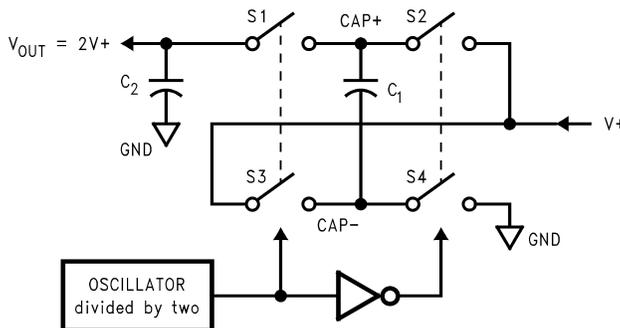

Figure 11. Voltage Doubling Principle
The LM2767 contains four large CMOS switches which are switched in a sequence to double the input supply voltage. Energy transfer and storage are provided by external capacitors. Figure 11 illustrates the voltage conversion scheme. When  $S_2$  and  $S_4$  are closed,  $C_1$  charges to the supply voltage  $V+$ . During this time interval, switches  $S_1$  and  $S_3$  are open. In the next time interval,  $S_2$  and  $S_4$  are open; at the same time,  $S_1$  and  $S_3$  are closed, the sum of the input voltage  $V+$  and the voltage across  $C_1$  gives the  $2V+$  output voltage when there is no load. The output voltage drop when a load is added is determined by the parasitic resistance ( $R_{ds(on)}$  of the MOSFET switches and the ESR of the capacitors) and the charge transfer loss between capacitors. Details are discussed in Application and Implementation.
- $R_{SW}$  is the sum of the ON resistance of the internal MOSFET switches shown in Figure 11. (1)